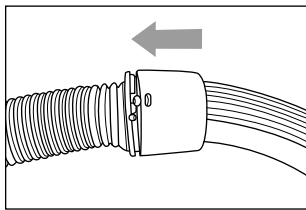

Fig. 2
- Mount the handle (H) onto the suction device (M) by slightly pressing it until the handle notch perfectly fits inside the apposite slot on the suction device (Fig. 2). Slightly pull to make sure the parts are properly assembled.